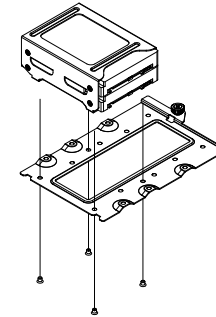

Figure 6-5. Securing 2.5" HDD Brackets to the HDD Drive Tray
3. Secure the HDD drive tray to the chassis floor using a thumb screw as shown in Figure 5-3 or four screws as shown in Figure 6-5.